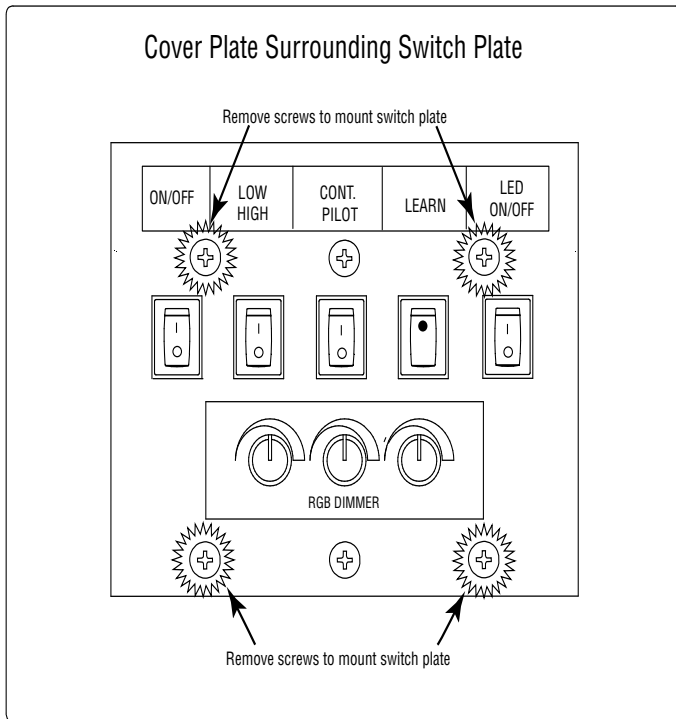
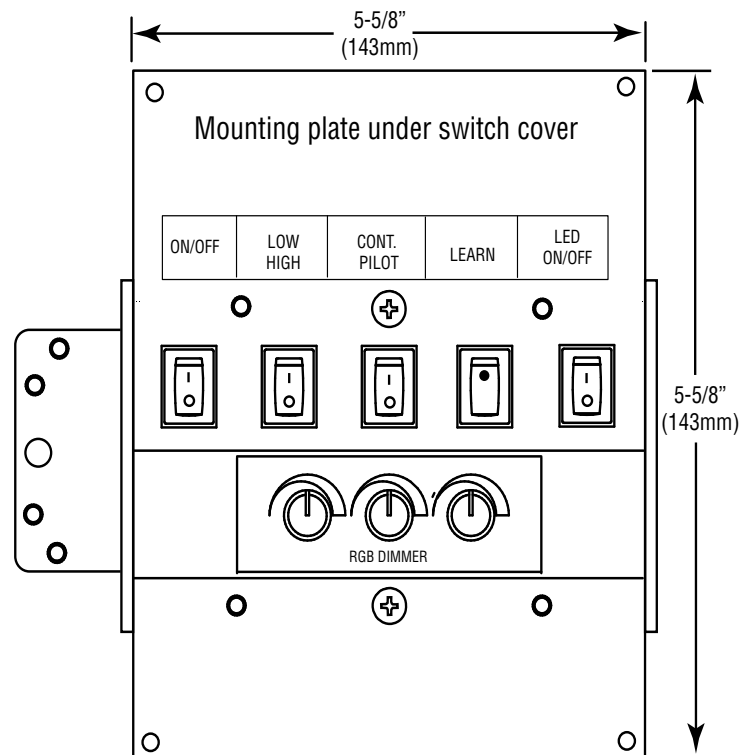
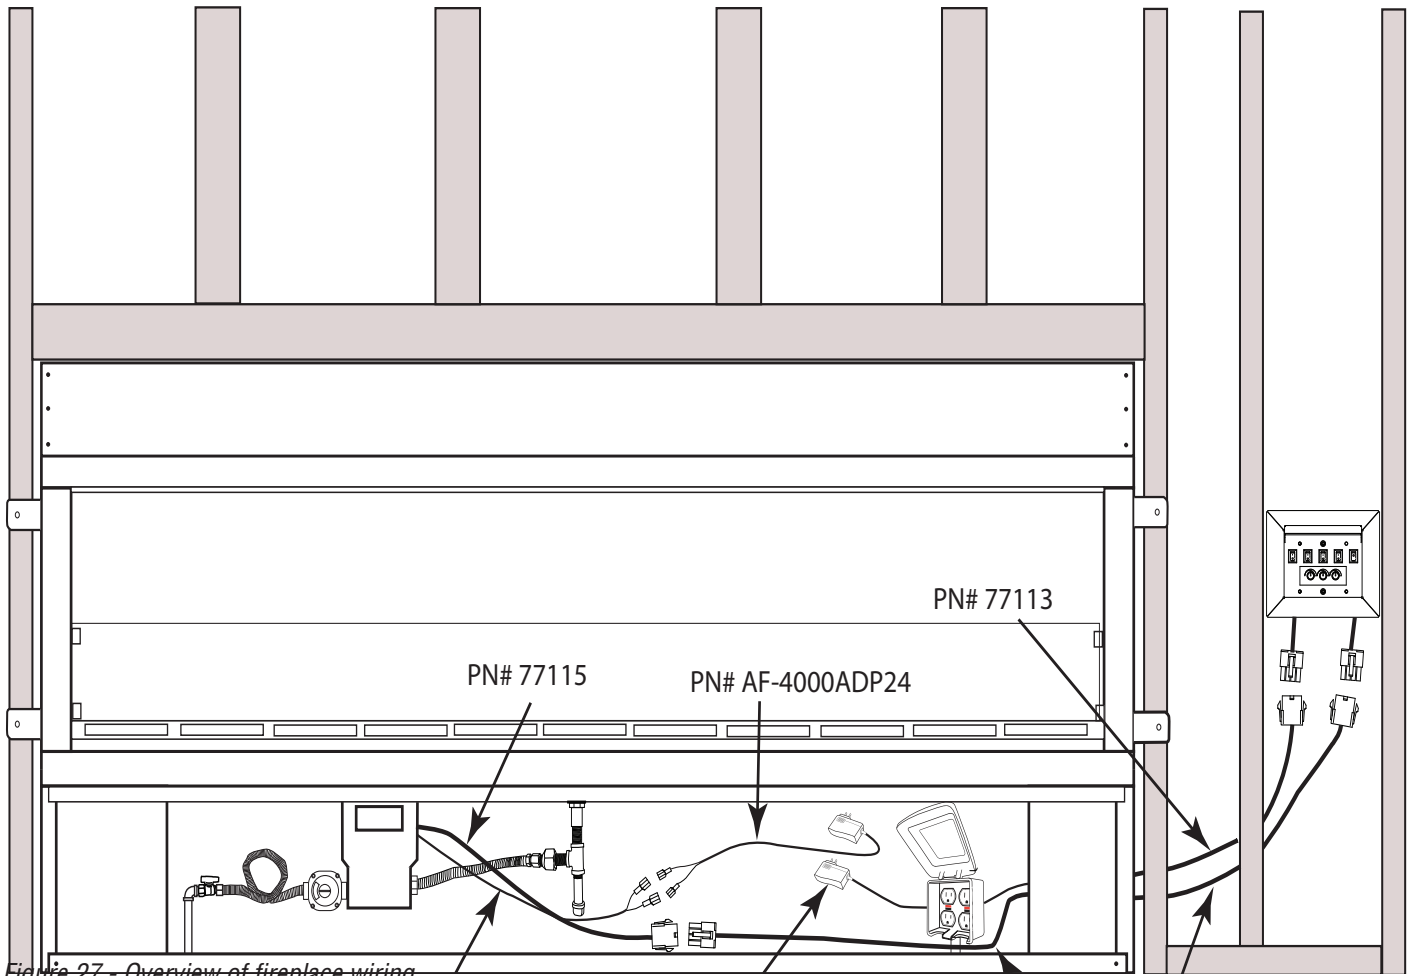

Figure 25 - RGB Control Box with 8-3/4" x 8-3/4" Cover Plate
Figure 26 - RGB Control Box Mounting Plate
Figure 27 - Overview of fireplace wiring
Step 10: Remove the RGB control box from the components parts carton. The fireplace is supplied with 10-feet of wiring for the RGB control box (switches and dimmer) installation. Find a suitable location within a close proximity of the fireplace for convenience of operation and mount the control box upright and level as shown in *Figure 27*. Use *Figures 25 and 26* for dimensional reference.
Step 11: Remove the four (4) outer screws from each corner inside the cover plate and lift off. See *Figure 25*. This will expose the mounting plate. See *Figure 26*. **CAUTION:** DO NOT REMOVE THE TWO CENTER SCREWS FROM THE COVER PLATE. THIS WILL RELEASE THE ENTIRE SWITCH BOX WIRING FROM INSIDE THE JUNCTION BOX AND MAKE IT DIFFICULT TO REINSTALL.
Step 13: Remove the 8-PIN module wire harness (Cat. No. F3500) from the components part box. Locate the 8-PIN male connector from the valve box (under the fireplace) and connect it to the 8-PIN female end of the wire harness. Connectors only attach one way; press together until it snap locks into place. See *Figure 27* for details.
Step 16: Locate the 6-PIN wire harness (Cat. No. F3500) for the LED lights and feed the wire harness up to the RGB control box and attach. Connectors only attach one way; press together until it snap locks into place. See *Figure 27*.